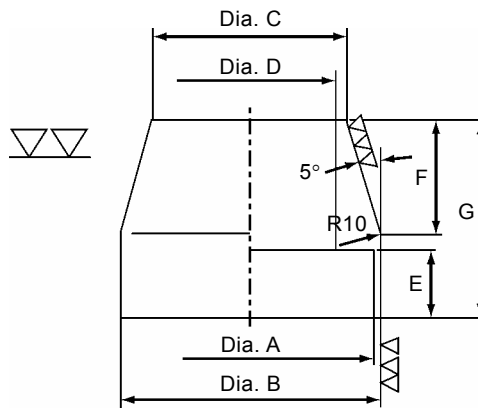

Figure 4: Special Tool for Piston Seal Attaching
- For special tool for seal ring attachment: Refer to figure 4 + table 4